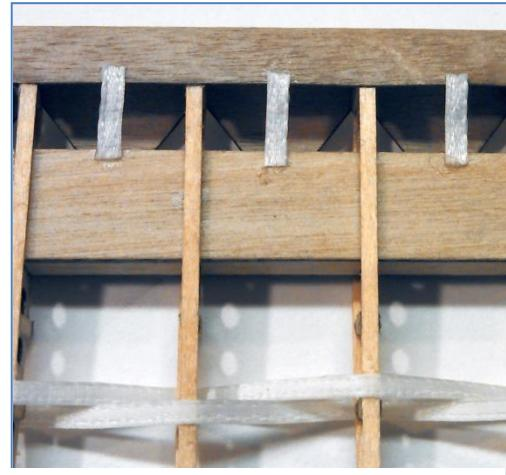

Figure 1.10 Rib and Leading Edge Bracing
5.g. Lower leading edge bracing: On the original Dr1, the lower lip of the leading edge is tied to the spar with pieces of tape, woven material much like a wide ribbon. On this model 1/16 inch ribbon is used. Cut pieces of ribbon to 3/8" inch (10 mm) long or slightly longer. Glue them on as shown in Figure 1.10 between each pair of ribs.